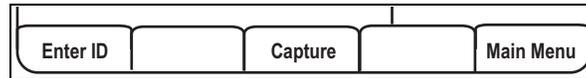

Figure 2-6. Operation Softkeys
3. Select the appropriate scale combination softkey. This scale combination remains active until the **Main Menu** softkey is pressed. The live weight and the softkeys in Figure 2-6 are displayed.